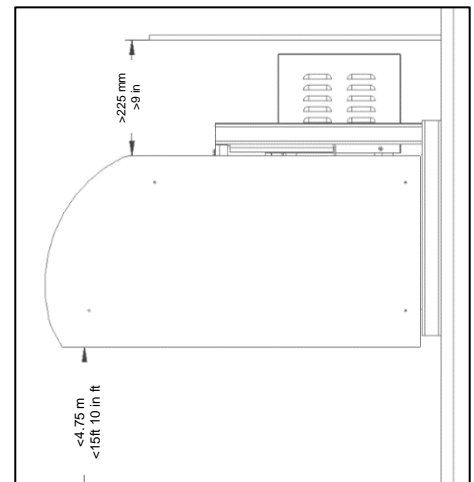

Figure 2
- at least 225 mm [9 in] clearance above the air curtain for 3ft long units, see Fig 2.